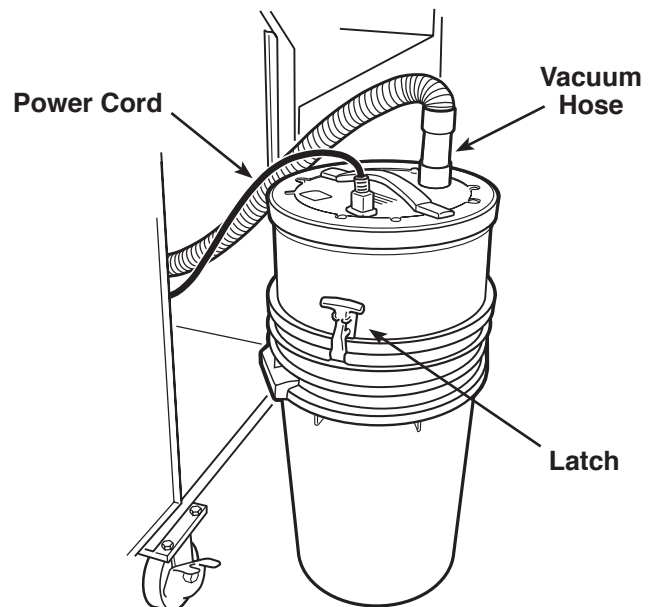

Figure 11
3. Grasp the handle on the vacuum filter pail and lift the vacuum out of the cabinet. See Figure 11.